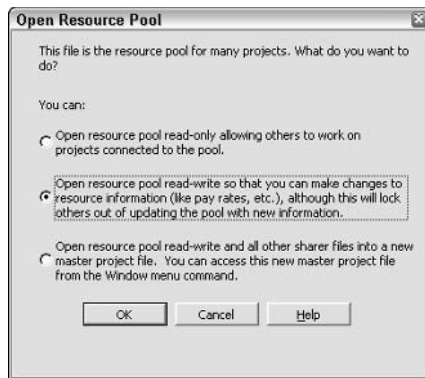

Figure 15-25: Use this dialog box to determine whether you open the resource pool file as a read-only file or a read-write file.
1. Open the resource pool file in read-write mode by using the Open dialog box—the same way that you would open any file. Project displays the Open Resource Pool box, as shown in Figure 15-25. Choose the middle option or the last option in this dialog box—either option enables you to disable the pool because both options open the file as a read-write file.